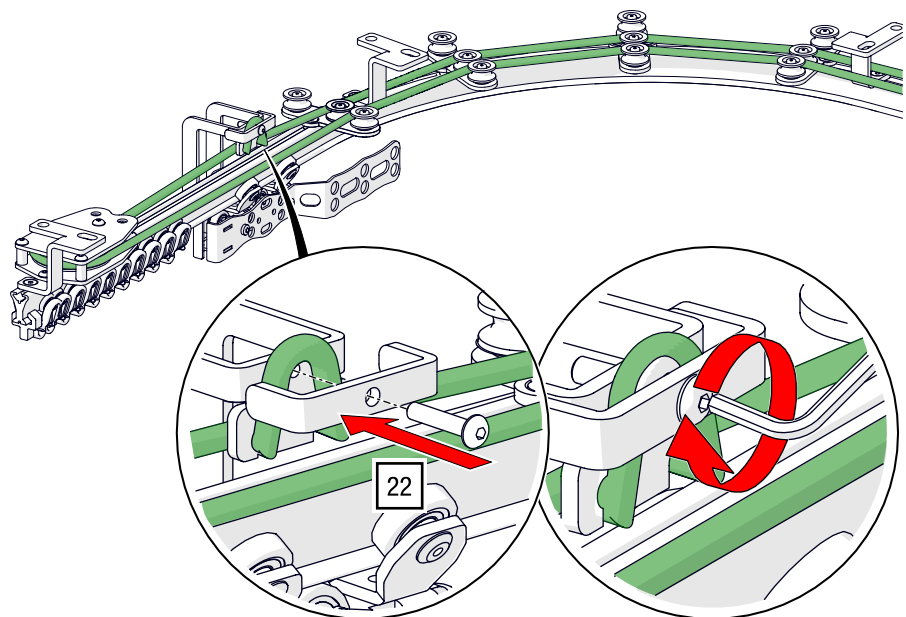

Fig. 84: Top cord operation – Clamp the cord to the second master runner
22. Clamp the cord in the second master runner by tightening the screw with a TORX® key T30 (see Fig. 84).